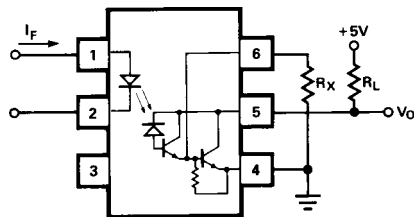

Figure 11. External base resistor, R_X .
- Use of a resistor between pin 4 and 6 will decrease gain and delay time. (See Figures 11, 12, and 13.)